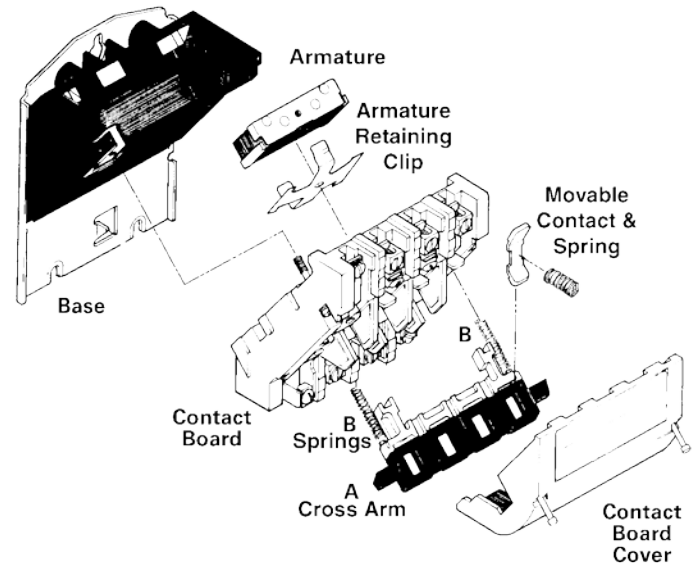

Figure 1
3. Remove the contact board cover from the controller. (Figure 1)